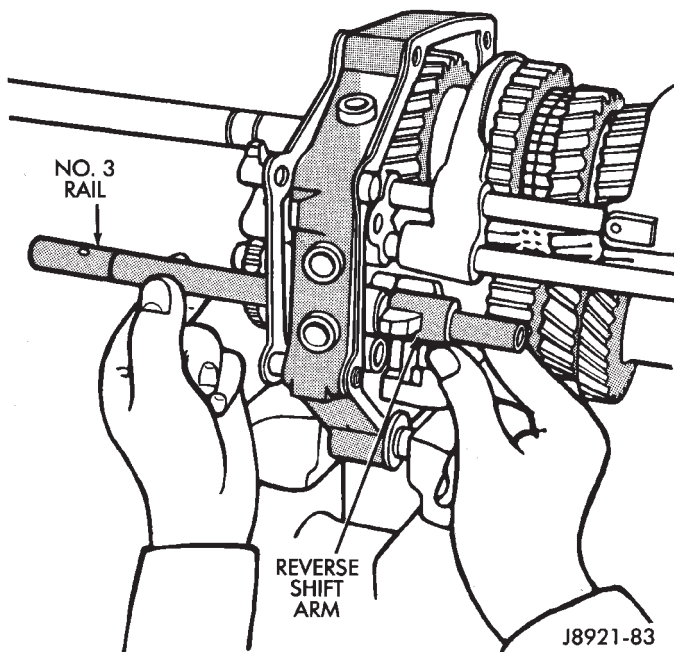

Fig. 83 Installing No. 3 Shift Rail
(11) Slide No. 3 rail into reverse shift head (Fig. 83).